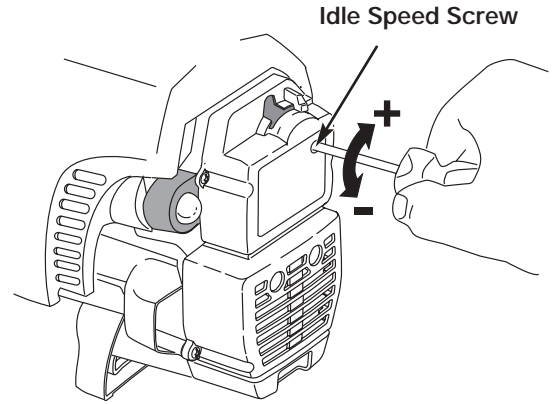

Fig. 24
The idle speed of the engine is adjustable through the air filter/muffler cover (Fig. 24).
2. Move the throttle control to the idle position and let the engine idle. If the engine stops, insert a small phillips or flat blade screwdriver into the hole in the air filter/muffler cover (Fig. 24). Turn the idle speed adjuster in, clockwise, 1/8 of a turn at a time (as needed) until the engine idles smoothly.